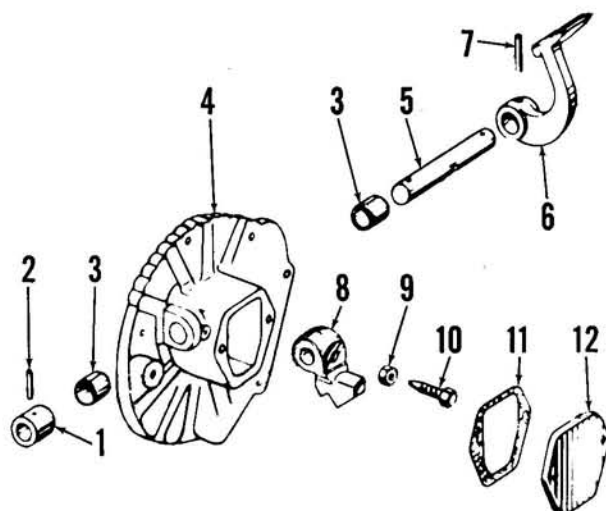

Fig. 149—Exploded view of differential lock operating pedal and disc brake cover assembly.
193. **OPERATING PEDAL.** To disassemble the operating pedal and brake cover assembly, refer to exploded view of unit in Fig. 149 and proceed as follows: Remove cover (12), loosen locknut (9) and remove the set screw (10). Drive pin (2) from collar (1) and shaft, then withdraw the pedal and shaft from brake cover and remove operating lever (8). Drive pin (7) from pedal and remove pedal from cross-shaft. Remove cross-shaft bushings from brake cover.